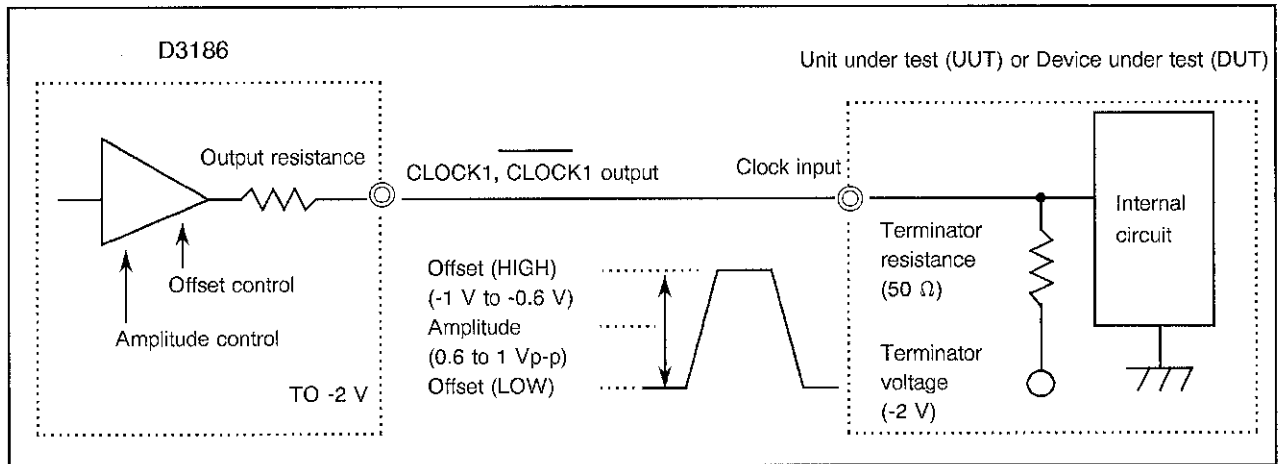

Figure 4-5 CLOCK1 and CLOCK1 Output, DC Connection, - 2 V Termination, ECL Level
- (b) When the terminator voltage of the UUT/DUT clock input is -2 V (ECL level) (see Figure 4-5.):